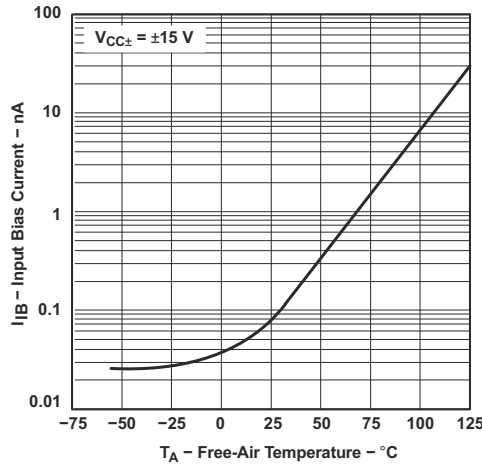

Figure 6-1. Input Bias Current vs Free-Air Temperature
- (1) Input bias currents of an FET-input operational amplifier are normal junction reverse currents, which are temperature sensitive, as shown in Figure 6-1. Pulse techniques that maintain the junction temperature as close to the ambient temperature as possible must be used.
- (2) All characteristics are measured under open-loop conditions with zero common-mode voltage, unless otherwise specified. Full range is $T_A = -55^\circ\text{C}$ to $+125^\circ\text{C}$.
- Input bias currents of an FET-input operational amplifier are normal junction reverse currents, which are temperature sensitive, as shown in Figure 6-1. Pulse techniques that maintain the junction temperature as close to the ambient temperature as possible must be used.
- Input bias currents of an FET-input operational amplifier are normal junction reverse currents, which are temperature sensitive, as shown in Figure 6-1. Pulse techniques must be used that will maintain the junction temperature as close to the ambient temperature as possible.